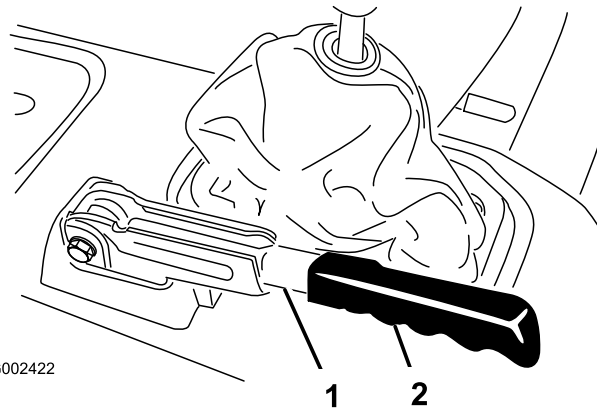

Figure 63
1. Remove the rubber grip from the parking-brake lever (Figure 63).